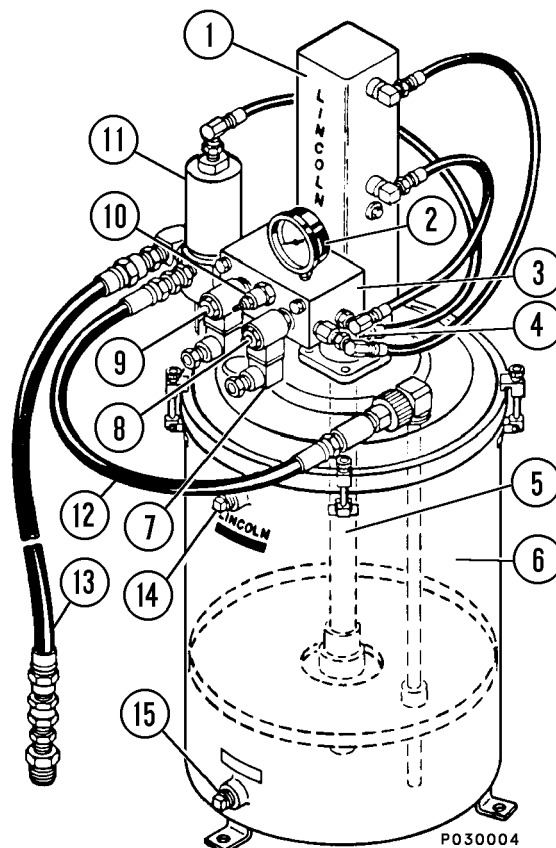

FIGURE 4-5. TYPICAL AUTO LUBE SYSTEM
1. Hydraulically Powered Reciprocating Cylinder and Pump (1 & 5, Figure 4-5).
2. Combination Valve Body (3, Figure 4-5) includes:
3. Pump Cycle Timer (7, Figure 4-5) [also called a "Flasher" timer, because it contains an LED that illuminates when there is power going to SV2]: The Pump Cycle Timer mounts on SV2 solenoid and generates a timed pulse signal which causes the solenoid valve to move, alternately. The alternating movement of the valve, changes the direction of hydraulic fluid flow from the top of the pump cylinder to the bottom, and vice versa, causing the grease pump piston to reciprocate, or "pump".
4. Grease Reservoir: For the 530M, the Cannister or Reservoir (6, Figure 4-5) is mounted on the right deck structure to the right of the hydraulic cabinet just above the right front suspension. The reservoir has an approximate capacity of 7.7 gal. or 60 lbs. (27 kg) of grease.
5. Vent Valve (11, Figure 4-5): When SV1 solenoid is energized, hydraulic pressure closes the Vent Valve, and also causes the pump to cycle. The pump cycles until SV1 solenoid is de-energized. When this occurs, hydraulic pressure is removed, causing the Vent Valve to open. The grease pressure drops to 0, and the injectors recharge for their next output cycle.
8. Safety Unloader Relief Valve (Not Shown); is located on the back of the vent valve (11, Figure 4-5). The Safety Unloader Relief Valve is designed to open if the pressure in the grease line rises to approximately 4000 psi (27.5 MPa)*. If this valve opens, the grease is expelled to atmosphere.
1. Turn Keyswitch (3, Figure 4-11) "Off" and shut down engine to de-energize system. Install a 5000 PSI (35 MPa) pressure test gauge in the grease supply line (13, Figure 4-5).